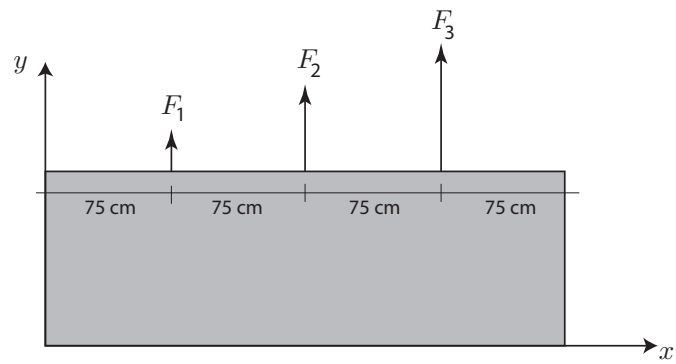

Figure 11: Problem 11.
11. The plate in Fig. 11 is subjected to three vertical forces of magnitude $F_1 = 25$ N, $F_2 = 50$ N, $F_3 = 75$ N. Find an equivalent single force system to replace these three forces. Make sure to specify the location where the equivalent force acts.